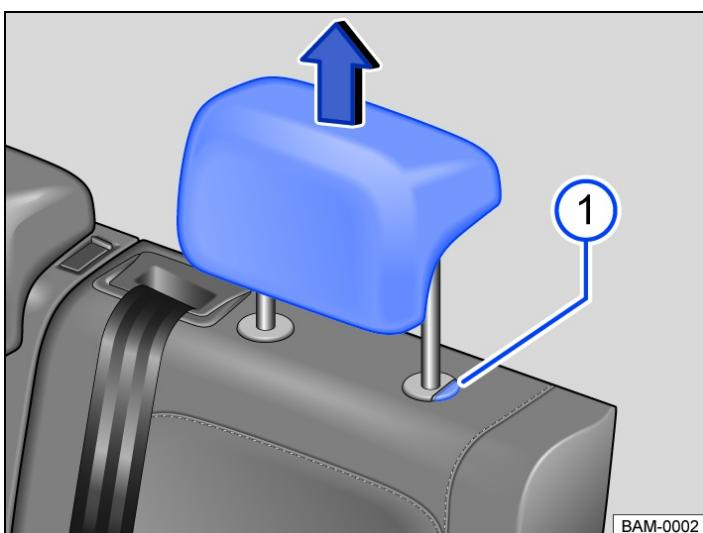

Fig. 2 Rear head restraint: removing.
- Pull the head restraint out fully while pressing the button → *Fig. 2* ①.
- Press and hold the button → *Fig. 2* 1 and push down the head restraint.